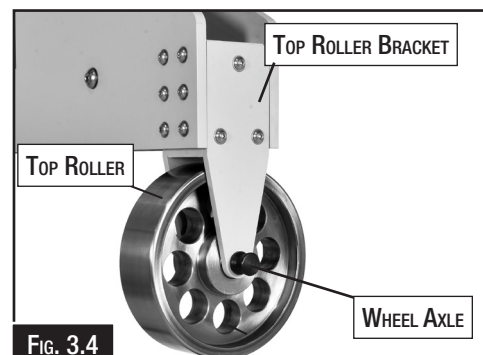

FIG. 3.4
1. Place the large upper wheel in upper wheel bracket, then install the wheel axle. (Fig. 3.4)
2. Install the spring clip in the upper wheel axle to secure upper wheel in the top roller bracket. (Fig. 3.4)